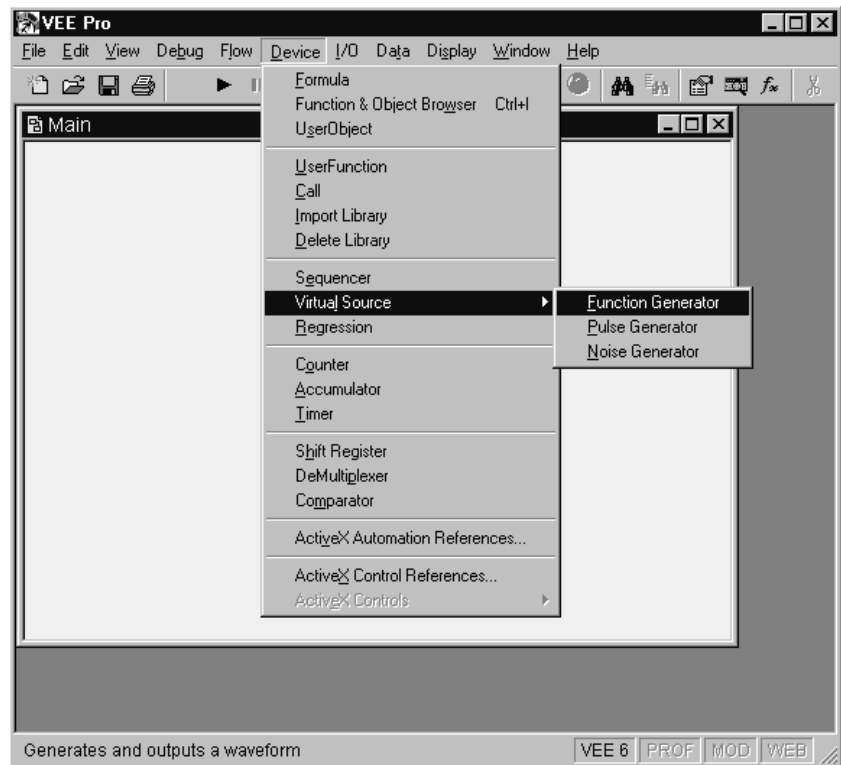

Figure 5 Adding Objects to the Work Area
- 1 For example, to add a Function Generator object to the work area, select **Device** ⇒ **Virtual Source** ⇒ **Function Generator** in the menu bar as shown in Figure 5.